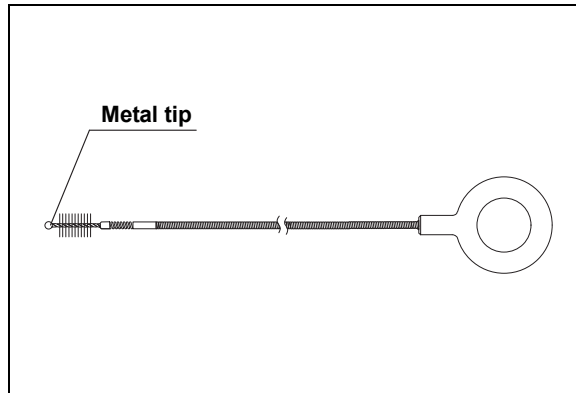

Figure 3.8
The channel cleaning brush is used to brush the inside of the instrument/suction channels and the holes in the air/water and suction valves (see Figure 3.8).
1. Confirm that the brush section and the metal tip at the distal end are securely in place. Check for loose or missing bristles (see Figure 3.8).